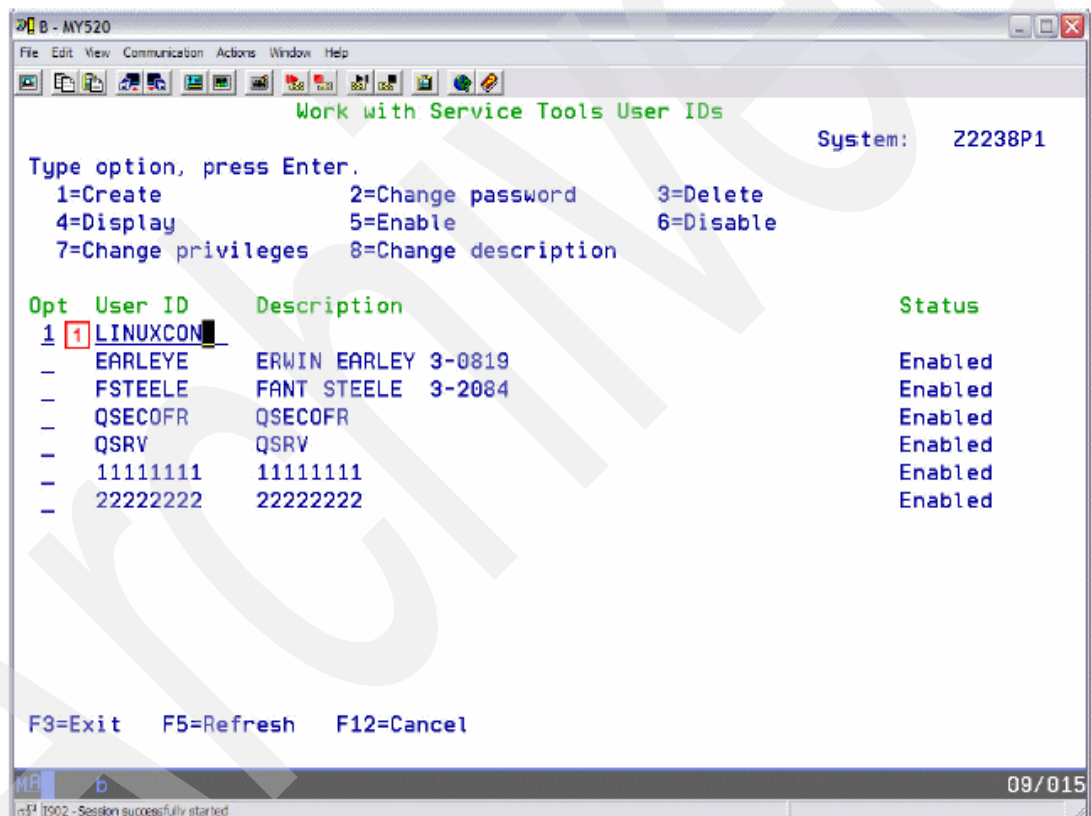

Figure 13-30 Work with Service Tools IDs
3. When the Work with Service Tools User IDs window is displayed, enter option 1 to create a new user (Figure 13-30).